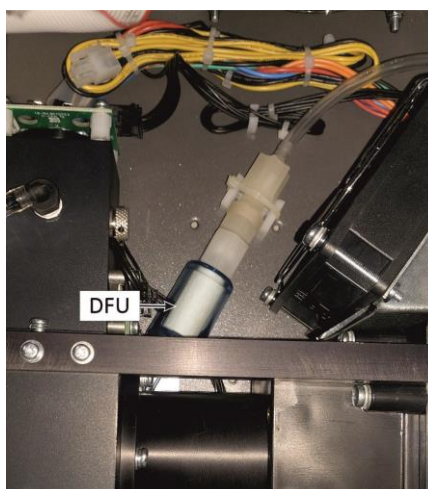

Figure 138 – Bypass DFU
12. Refer to Figure 138. Locate the bypass DFU inside the chassis, between the PMT fan assembly and the dump, and block the DFU inlet.